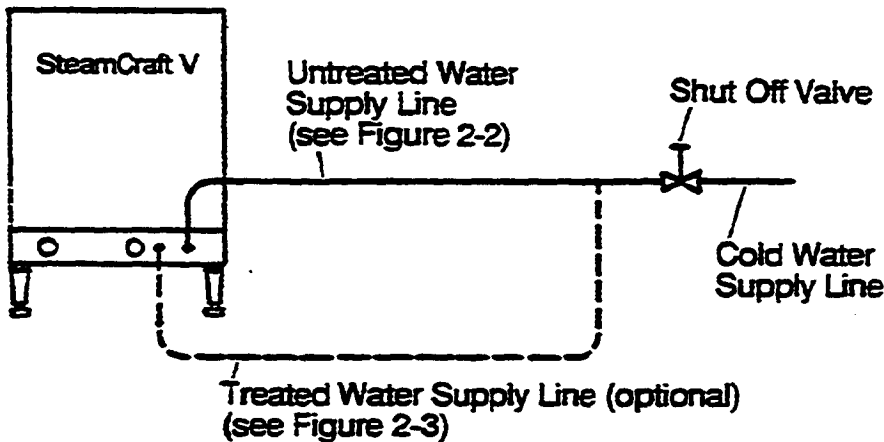

Figure 4-1. Water Line Valve
1. Close the valve in the steamer water line. Refer to figure 4-1.